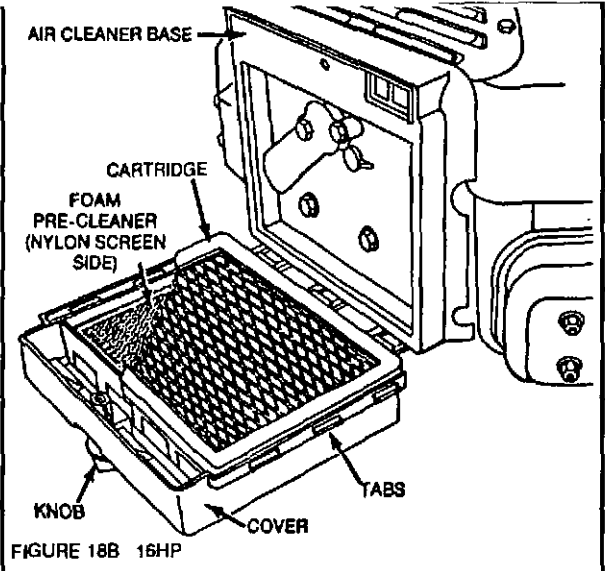

FIGURE 18B 16HP
**DUAL ELEMENT AIR CLEANER (OPTIONAL ON SOME MODELS) fig. 18B & 18C**